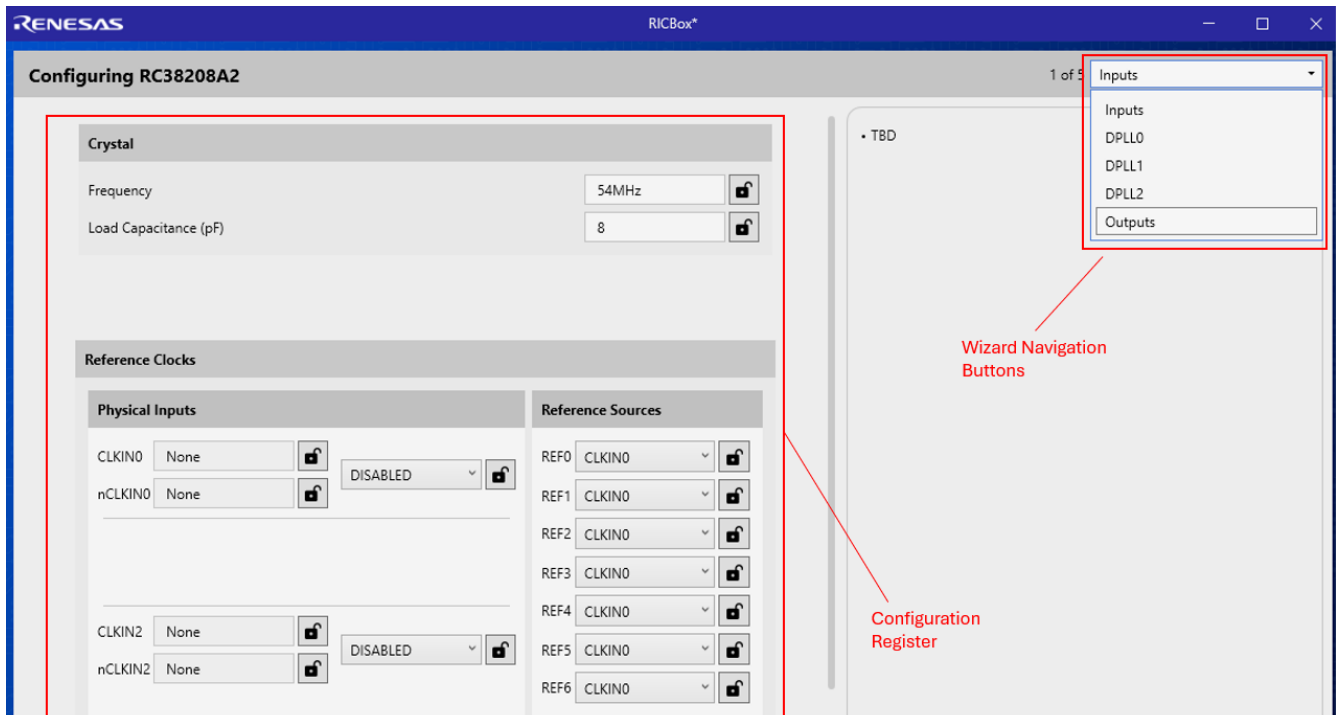

Figure 25. RICBox Wizard Navigation
5. Follow the on-screen wizard (see Figure 25) to configure the device for general evaluation starting from “Inputs”, then “DPLL”, and finally “Outputs”.